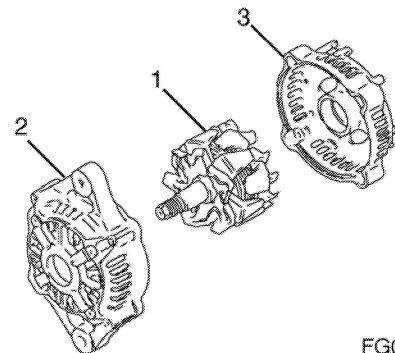

Figure 399
4. Lubricate the shaft of the rotor assembly (1, Figure 399). Press the rotor assembly into the front frame housing (2, Figure 399) and rear frame housing (3, Figure 399).